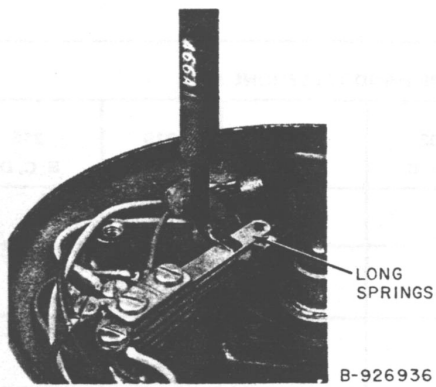

Fig. 7—Long Spring Contact Adjustment
**3.05** Contact springs should be adjusted with a 466A tool. When adjusting long springs, move the 466A tool along spring, bowing slightly to increase or decrease tension. Be careful not to deform contacts (Fig. 7).